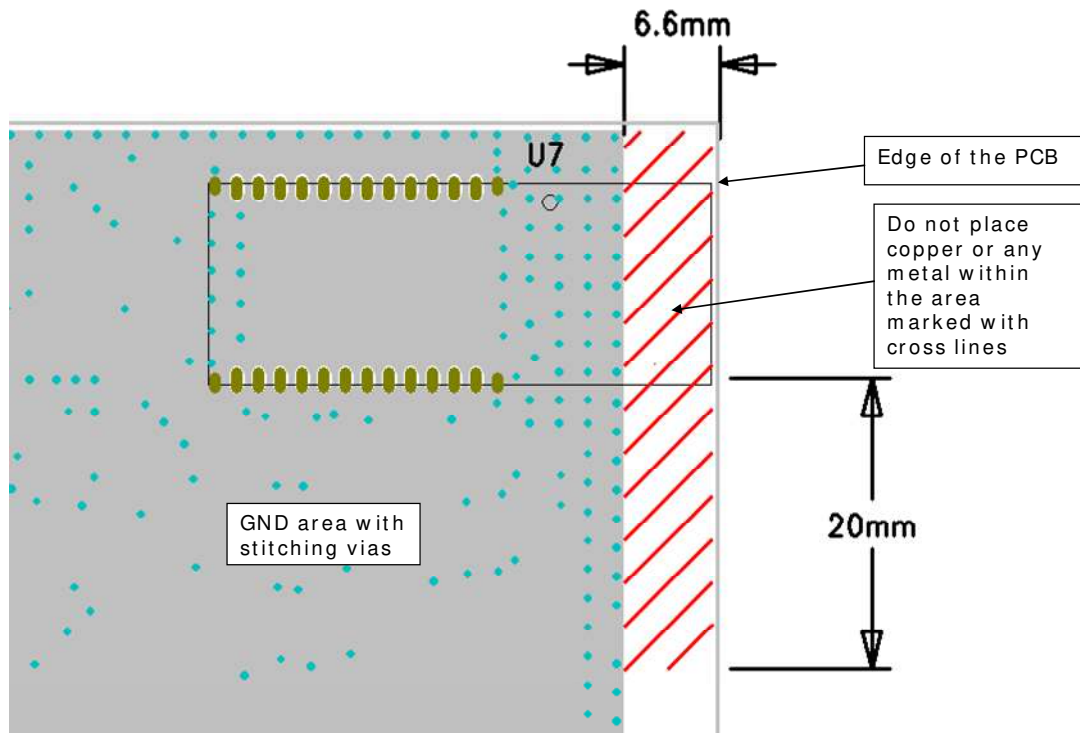

Figure 30: Recommended PCB layout around ACX antenna with the module at the edge of PCB
When using overlapping GND planes, use grounding vias separated max 3 mm apart at the edge of grounding areas to prevent RF penetrating inside the PCB and causing an unintentional resonator. Use GND vias all around the PCB edges. Figure 30 illustrates recommended PCB design around the antenna of WT11 when the module is placed at the edge of a PCB.
Avoid placing plastic or any other dielectric material closer than 5 mm to the antenna. The impedance matching of the antenna is optimized with the evaluation kit and any dielectric material, such as a plastic case, closer than 5 mm to the antenna will move the resonant frequency down wards. Any dielectric material closer than 2 mm to the antenna will have a radical effect on the range of the module. It is highly recommended to strictly follow the layout show in the figure 30 using FR4 with thickness of 1 mm. In a case, when thicker FR4 or a plastic case close to the antenna is mandatory, the antenna matching can be retuned by removing extra FR4 under the antenna. Please contact Bluegiga technical support for details.
- Do not place a ground plane underneath the antenna. The grounding areas under the module should be designed as shown in Figure 30.